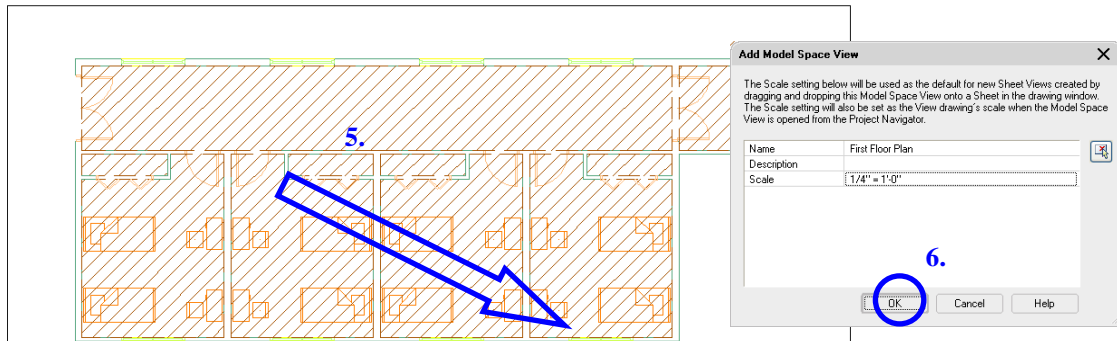

Figure 14
6. In the **Add Model Space View** dialog box, click the **OK** button. *Figure 14*